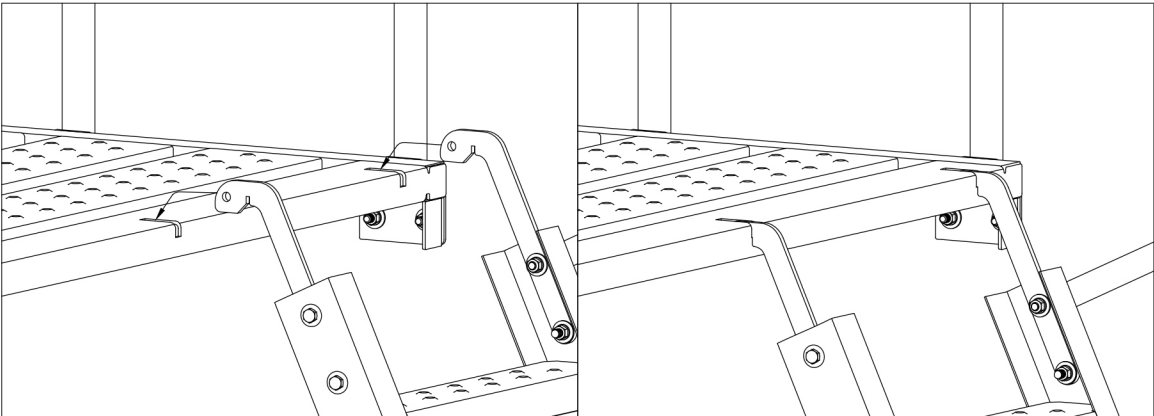

Figure 8.1
STEP 8: Raise the ladder into position on the front of the platform. Move ladder so that notches in Ladder Connector rest firmly in the slots on the platform as shown in Figure 8.1. The Ladder Connector will sit flush with the surface of the platform.